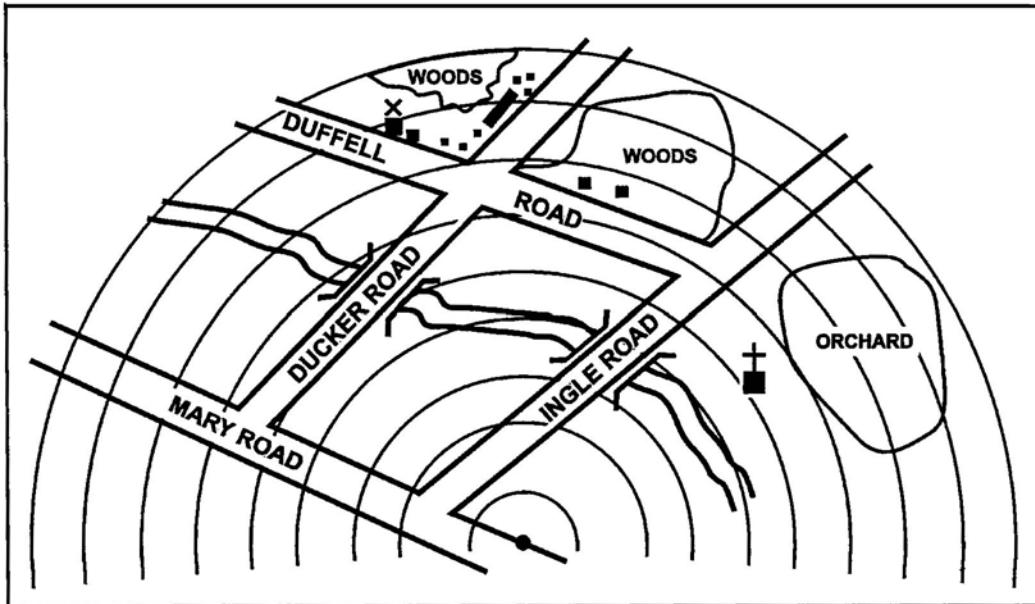

Figure 2. Sector sketch.
- a. Sector sketch. Draw a sector sketch that covers the entire sector. Draw the sketch as large as possible, but no larger than the outer circle. For large areas covered by trees or woods, draw only the outline and label the area "woods" or "orchard," whatever best describes it (Figure 2). In the lower part of the range card, indicate the firing position, which is shown by a dot in the smallest arc.